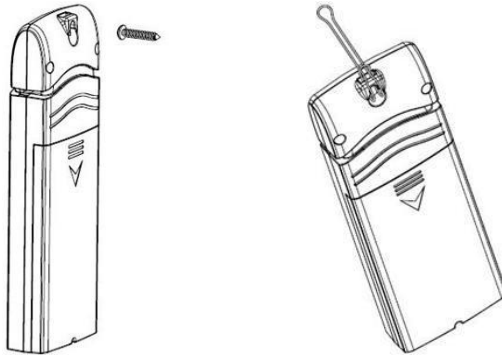

Figure 19: Indoor sensor mounting
- Use a screw or nail to affix the remote sensor to the wall, as shown on the left side of Figure 19, or
- Hang the remote sensor using a string, as shown in right side of Figure 19